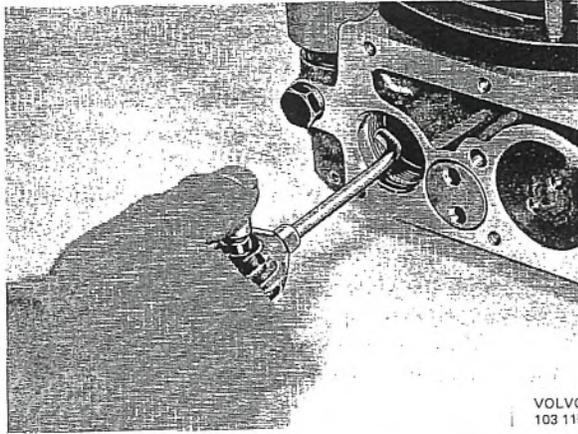

Fig. 4-38. Blowing orifice nozzle clean
4. Before fitting the parts of the relief valve, it may be suitable to blow the orifice nozzle clean with compressed air, see Fig. 4-38.
The orifice nozzle is accessible after the cylinder of the relief valve has been removed according to above. Blow the orifice nozzle clean with compressed air, see Fig. 4-38.